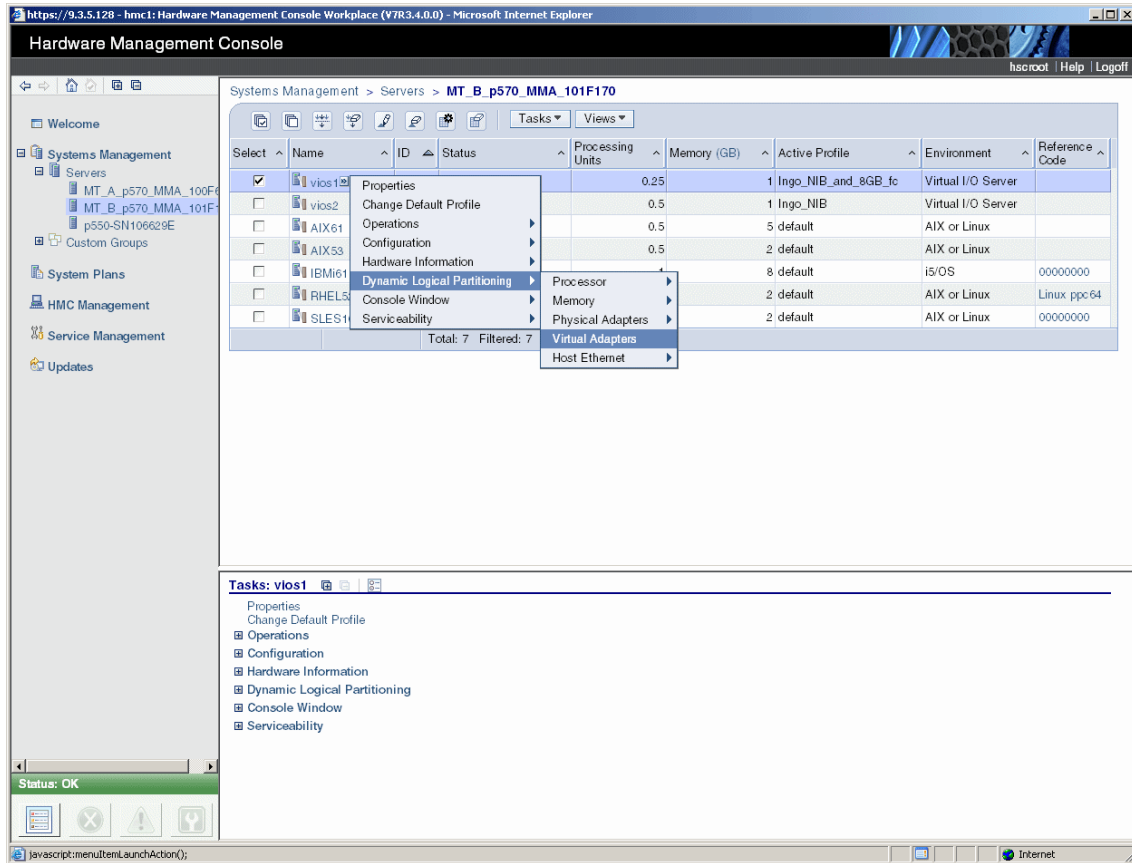

Figure 12-21 Remove virtual adapter operation
- On the HMC, select the partition to remove the adapter from and click **Dynamic Logical Partitioning** → **Virtual Adapters** (Figure 12-21).